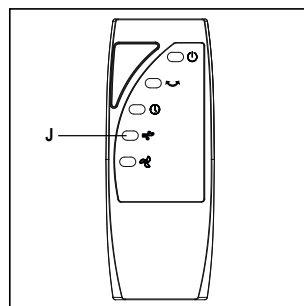

Fig. 3
- It is possible to select other two possible ventilation modes "Natural" (S) or "Sleep" (T), in addition to the standard one, by repeatedly pressing the (J) button on the remote control (Fig.3). The apposite light on the front side of the blade will turn on (S-T).